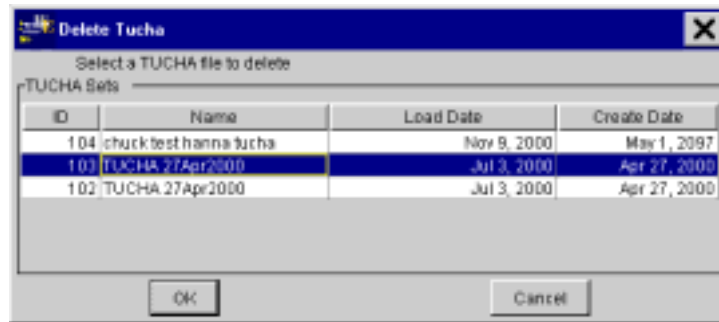

Figure 5.160 Delete Tucha Window
1. On the ETEdit (main) window, on the Reference menu, click TUCHA>Delete TUCHA. The Delete Tucha window opens (Figure 5.160).